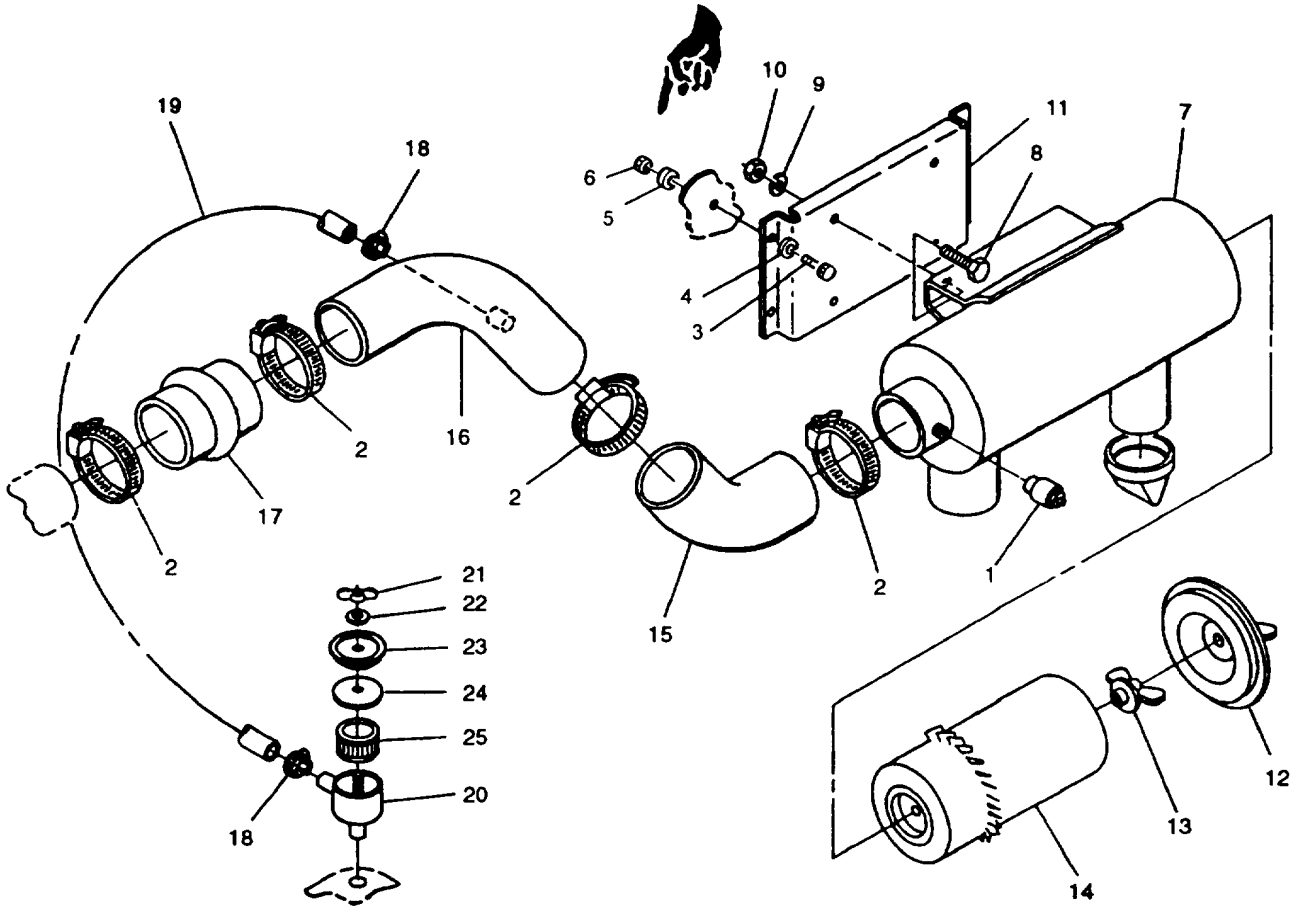

FIGURE 2-21. Air Cleaner Assembly
- c. Inspect air restriction indicator (1, FIGURE 2-21) for cracks, stripped threads, or other obvious damage.
- c. Unscrew air restriction indicator (1, FIGURE 2-21 ) from air cleaner housing (7).
- a. Install air restriction indicator (1, FIGURE 2-21) on air cleaner housing (7). Tighten hand tight only.
- d. Inspect air cleaner assembly and mounting bracket for cracks, dents, and other damage (FIGURE 2-21).
- d. Loosen clamp (2, FIGURE 2-21) and remove hose (15) from air cleaner housing (7).
- e. Remove bolts (3), washers (4), lockwashers (5), nuts (6), mounting bracket (11), and air cleaner assembly from generator set.
- f. Remove bolts (8), nuts (10), lockwashers (9), and mounting bracket (11) from air cleaner assembly.
- a. Install mounting bracket (11, FIGURE 2-21) on air cleaner assembly with bolts (8), lockwashers (9), and nuts (10).
- b. Install aircleaner assembly and mounting bracket (11) on generator set with bolts (3), washers (4), lockwashers (5), and nuts (6).
- c. Install hose (15) and clamp (2) on air cleaner housing (7). Tighten clamp (2).
- c. Loosen wing nut caged to cover (12, FIGURE 2-21) and remove cover (12) from air cleaner housing (7).
- d. Remove wing nut (13) and filter element (14) from air cleaner housing (7).
- c. Inspect element (14, FIGURE 2-21) for debris and damage, replace as necessary.
- d. Wipe inside of air cleaner housing (7) with clean cloth (Item 8, Appendix C).
- a. Install filter element (14, FIGURE 2-21) in air cleaner housing (7) and tighten wing nut (13).
- b. Install cover (12) on air cleaner housing (7), tighten caged wing nut.
- f. Remove wing nut (21, FIGURE 2-21), washer (22), cover (23), rubber seal (24), and element (25) from breather (20).
- j. Install element (25), rubber seal (24), cover (23), washer (22), and wing nut (21 ) on breather (20).
- c. Loosen dampers (2 and 18, FIGURE 2-21).
- d. Remove hose (15) from air cleaner housing (7) and tube (16).
- e. Remove tube (16) from breather hose (19) and hump hose (17).
- f. Remove hump hose (17) from turbocharger.
- g. Remove breather hose (19) from breather (20).
- h. Remove breather (20) from valve cover.
- i. Remove wing nut (21), washer (22), rover (23), rubber seal (24), and element (25) from breather (20).
- a. Install element (25, FIGURE 2-21), rubber seal (24), cover (23), washer (22), and wing nut (21) on breather (20).
- b. Install breather (20) in valve cover.
- c. Install hose (19) and clamp (18) on breather (20).
- d. Install hump hose (17) and damp (2) on turbocharger.
- e. Install tube (16) and damp (2) on hump hose (17).